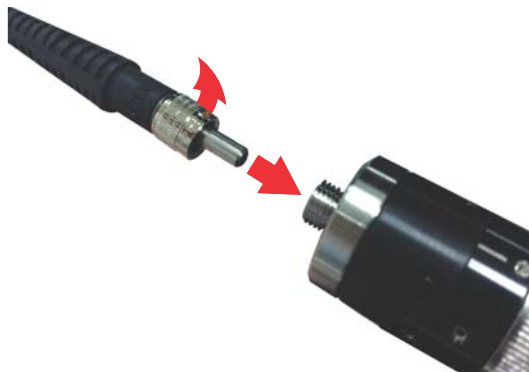

Figure 2-36. Insert SMA Connector into FR Adapter
2. Screw the SMA connector into the laser FR adapter assembly, as shown in Figure 2-36: